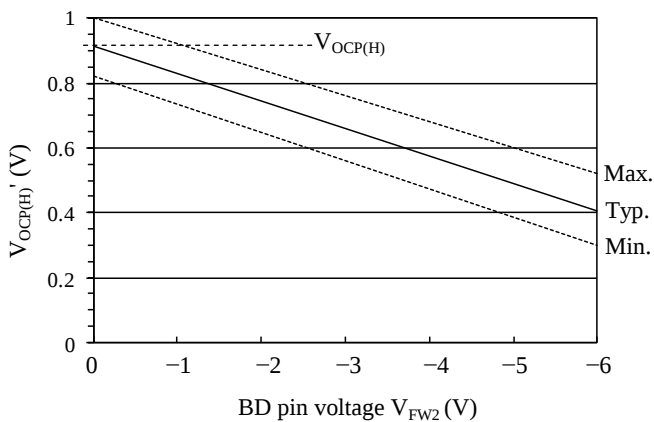

Figure 9-28 Overcurrent threshold voltage after input compensation,  $V_{OCP(H)}$ ' (reference for design target values)
**4)  $V_{OCP(H)}$ ' is the overcurrent threshold voltage after input compensation. Figure 9-28 shows a relationship of  $V_{OCP(H)}$ ' and BD pin voltage,  $V_{FW2}$ .**
$V_{FW2}$  at maximum AC input voltage is calculated by using Equation (7).  $V_{OCP(H)}$ ' and this variation are gotten by using the result from Figure 9-28.
Referring to Figure 9-28, when  $V_{FW2}$  is compensated to  $-2.92 \text{ V}$ , the overcurrent threshold voltage after input compensation,  $V_{OCP(H)}$ , is set to about  $0.66 \text{ V}$  (typ).